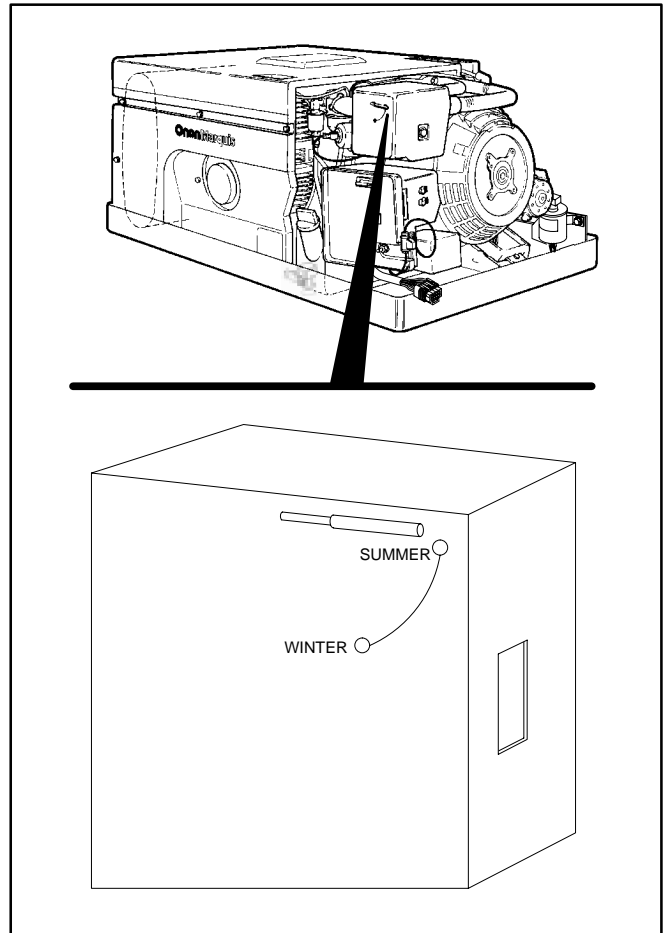

FIGURE 8. CARBURETOR PREHEATER LEVER (GASOLINE MODELS ONLY)
2. At temperatures below 40° F (4° C), push the carburetor air preheater lever down to the WINTER position (gasoline models only). The lever is located on the front of the air cleaner (Figure 8). At temperatures between 40° F (4° C) and 70° F (21° C), the preheater may be left in either position.
5. At temperatures above 70° F (21° C) push the carburetor preheater lever up to the SUMMER position (gasoline models only). The lever is located on the front of the air cleaner (Figure 8).